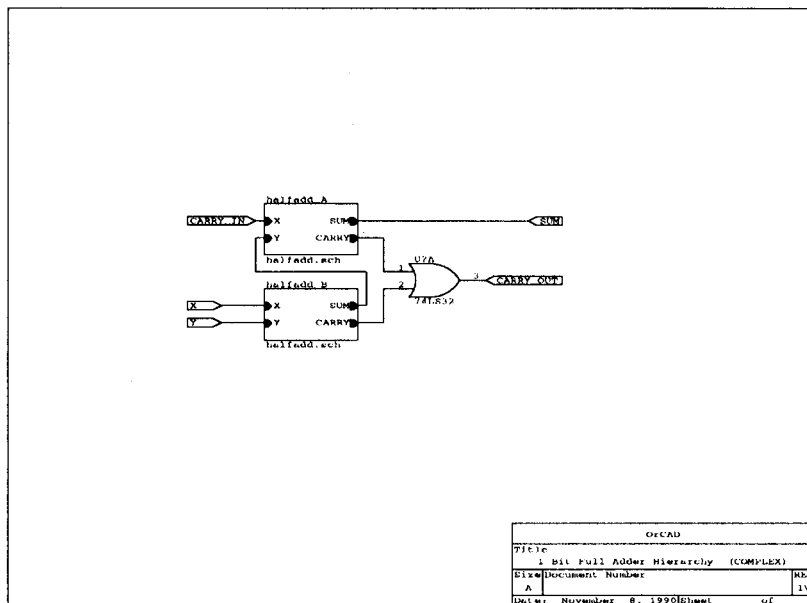

Figure 8-9. Full-adder worksheet.
2. Place the pointer inside one of the sheet symbols and select **Enter**. **Draft** displays the worksheet referred to by the selected sheet symbol. Figure 8-9 shows the full-adder worksheet.